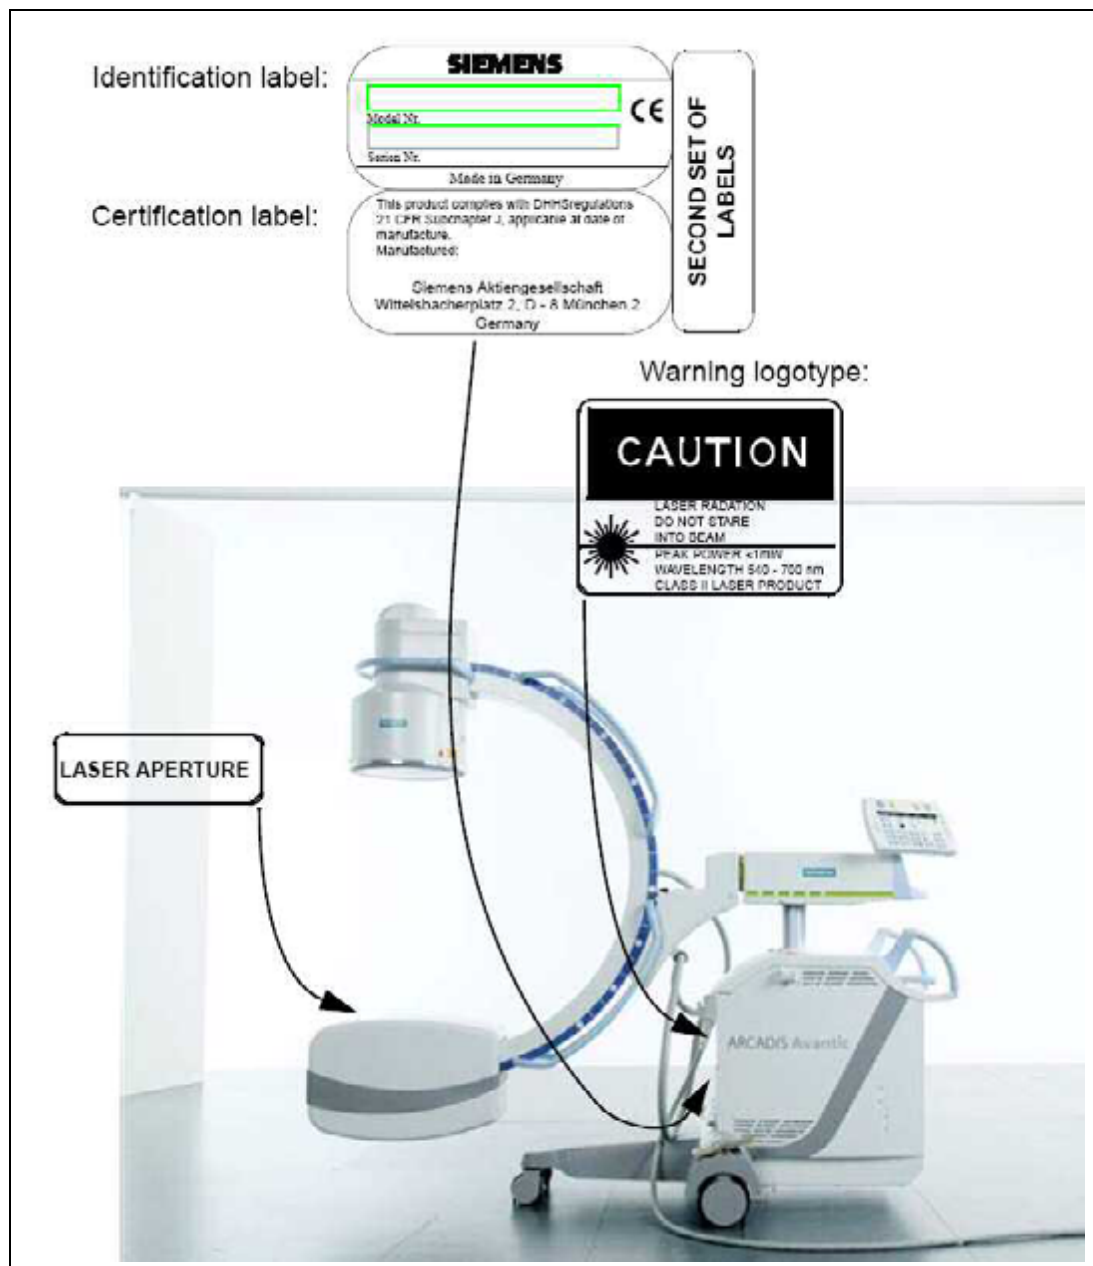
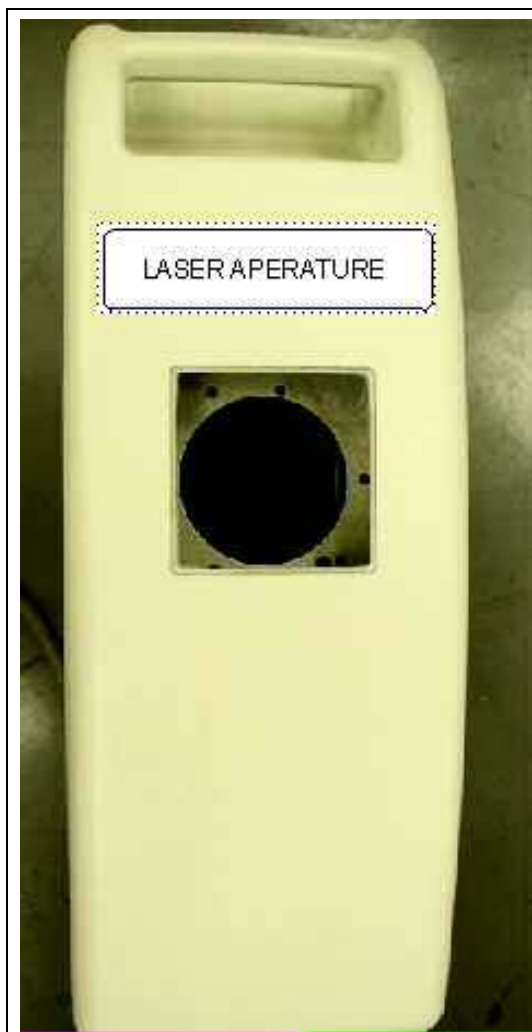

Fig. 5: Stickers_other_countries
Fig. 6: Sticker_laser aperture
- Affix the identification labels provided as shown in (Fig. 5 / p. 15) and (Fig. 6 / p. 16).
- Affix the identification labels provided as shown in (Fig. 5 / p. 15) (other countries).
Great Britain: Affix the warning label according to IEC 825 (text) in the local language, warning label according to IEC 825 (symbol) and identification label. Attach additional laser aperture labels (see (Fig. 6 / p. 16)).